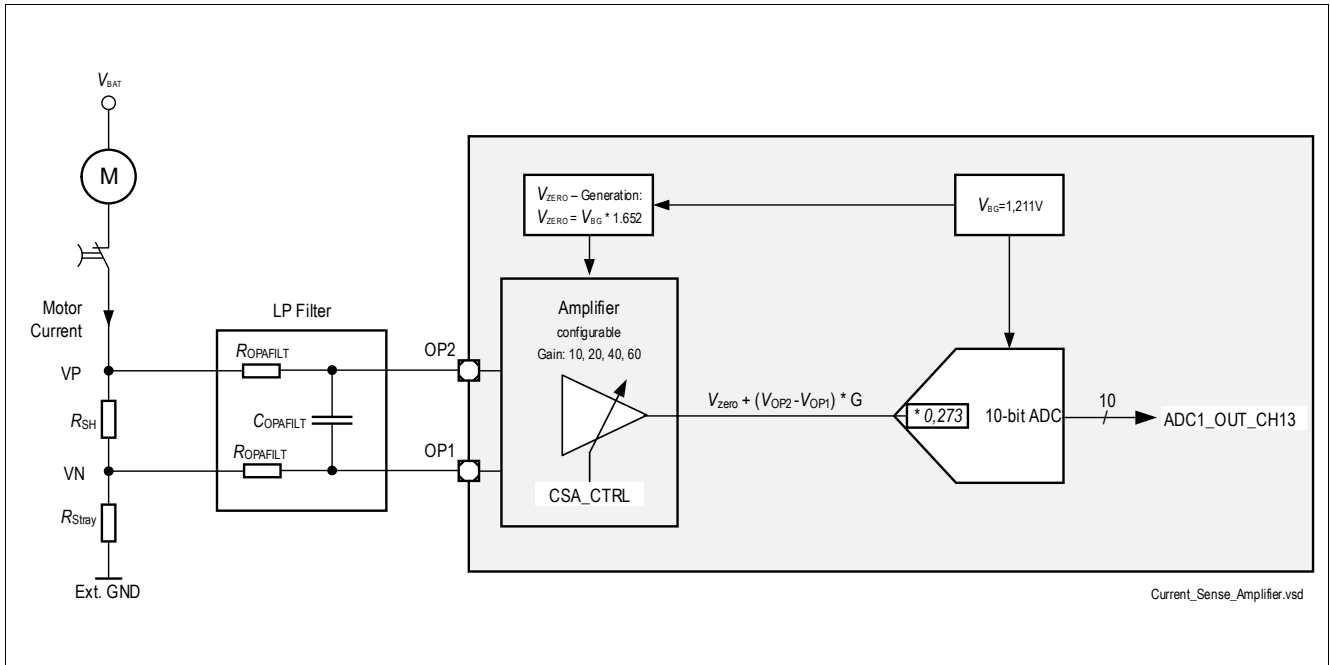

Figure 41 Simplified Application Diagram
The current sense amplifier in **Figure 41** can be used to measure near ground differential voltages via the 10-bit ADC. Its gain is digitally programmable through internal control registers.
**Figure 41** shows how the current sense amplifier can be used as a low-side current sense amplifier where the motor current is converted to a voltage by means of a shunt resistor  $R_{SH}$ . A differential amplifier input is used in order to eliminate measurement errors due to voltage drop across the stray resistance  $R_{Stray}$  and differences between the external and internal ground. If the voltage at one or both inputs is out of the operating range it has to be taken into account that the input circuit is overloaded and needs a certain specified **recovery time**.